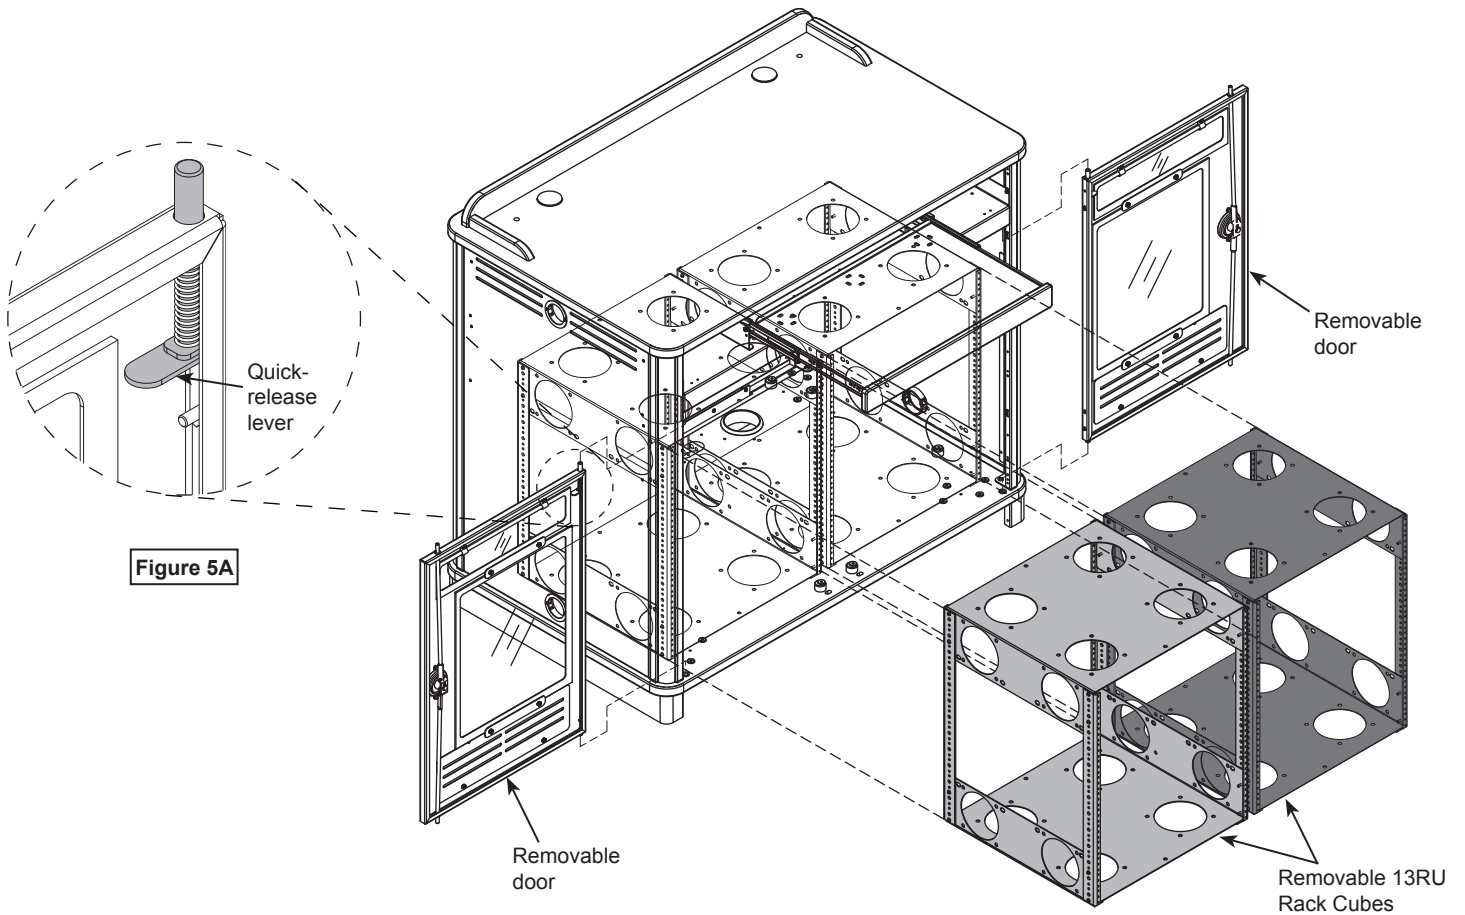

Figure 5B
The removable rack cubes (13RU) simplify installation and provide the ability to integrate equipment remotely and be installed into the lectern at a later date. They provide mounting capabilities for multiple cooling fans if necessary. Compatible with most 4.75" cooling fans with 4.13" mounting hole spacing (12 mounting locations available per cube). **Figure 5B.**
2. Unscrew the #14 x 7/8" PHSM screws from each cube, and slide out. **Figure 5B.**